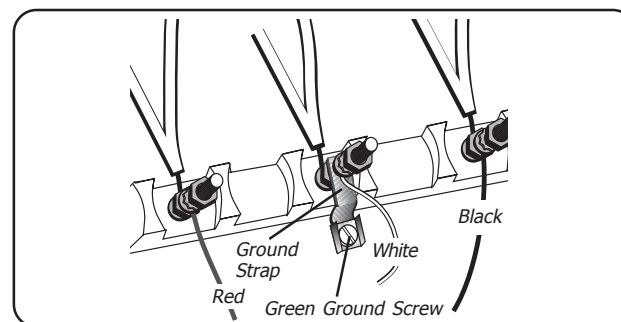

Figure 8
2. Measure to locate bracket position as shown in Figure 8.